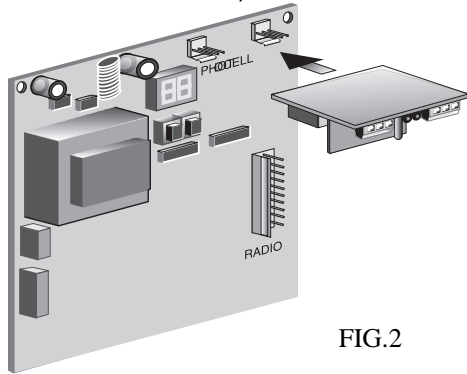
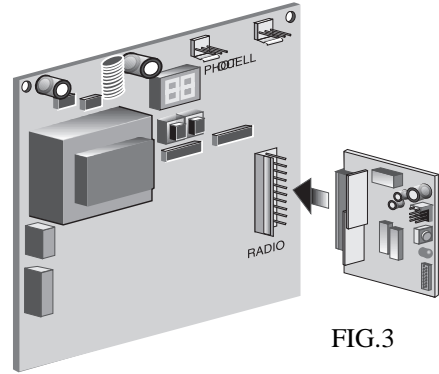

FIG.2
FIG.3
- Terminal 41 is not to be connected if the Prastel photocell amplifier (current model FT/11SK) is plugged in (see Fig. 2) as the connection is already made internally.
The EURO/1MF unit is set up for connection to a Prastel photocell amplifier (current model FT/11SK - Fig. 2) and to several Prastel single- or double-channel radio receivers (Fig. 3).
This function is used to enable various control signals sent via the first channel of a MPS or MPS-Roll Prastel transmitter and received by a Molex plug-in receiver in the unit (see Fig. 3 on page 3).